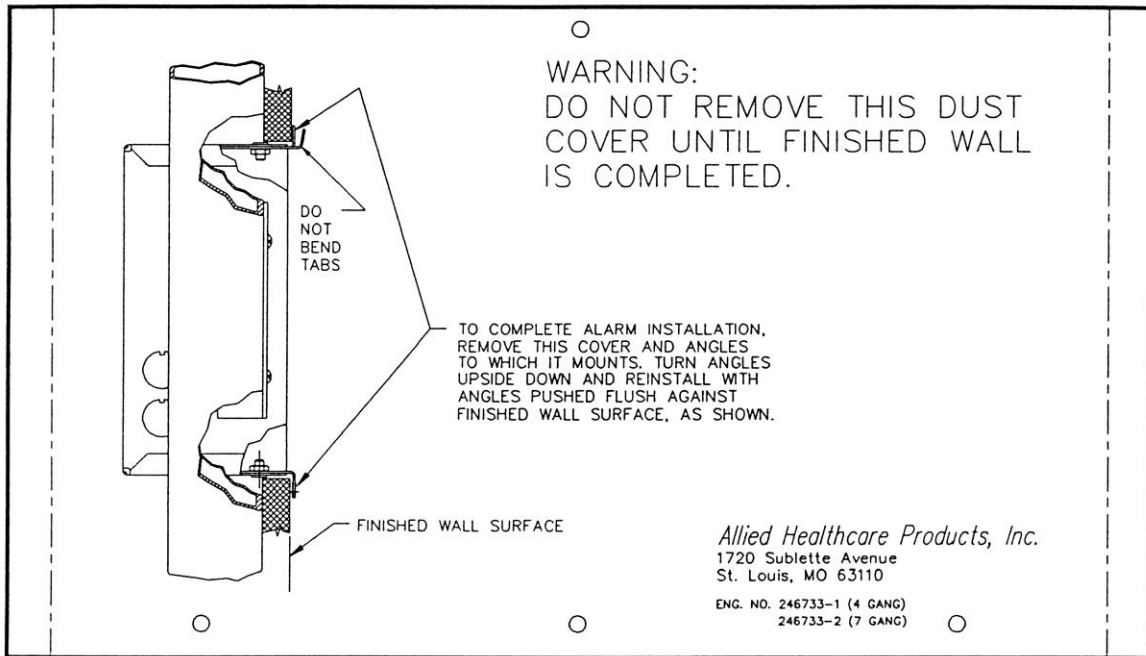

Figure 10 – Dust Cover and Angles Orientation
4.2.1 Remove the Dust Cover and angles, to which it mounts, from the Back Box (see Figure 10). Turn angles upside down and reinstall with angles pushed flush against finished wall surface.
- 4.2.10.1 Ensure that the mounting angles have been turned over (See 4.2.1 and Figure 10).